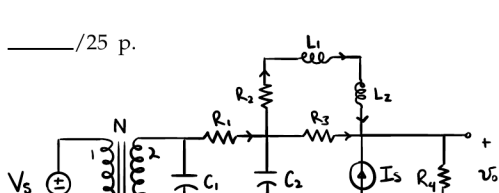

Figure exe.4: Exercise emech, part (a)
- The electronic system of Fig. exe.4, voltage and current sources, and transformer with transformer ratio N .